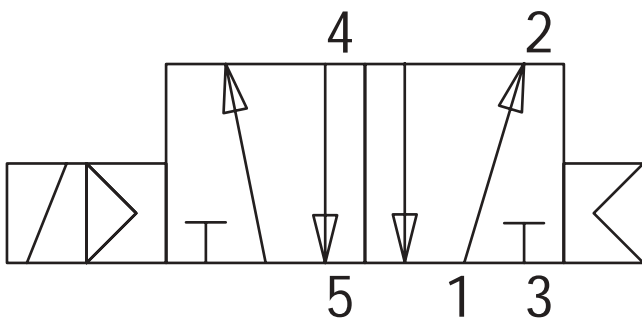
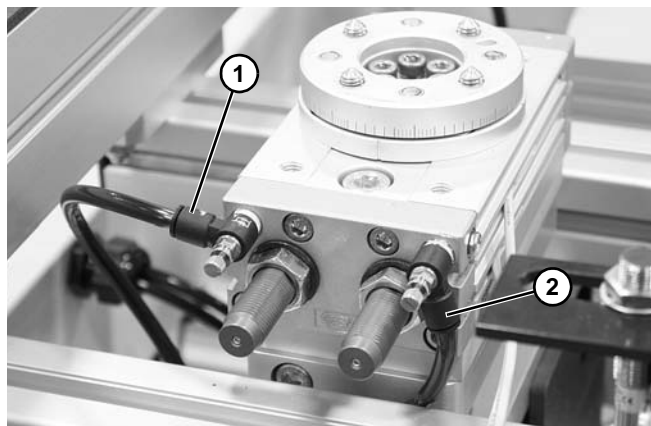

Figure 64
Figure 67
Dorner recommends using a 5 port, 2 way solenoid valve (Figure 64) to operate the Rotating Actuator.
1. Connect Port 4 (**Figure 64**) of the 5 port, 2 way solenoid to the left port (**Figure 67, item 1**) of the rotator. Dorner fittings accept 1/4" outside diameter tubing standard.
2. Connect Port 2 (**Figure 64**) of the 5 port, 2 way solenoid to the right port (**Figure 67, item 2**) of the rotator. Dorner fittings accept 1/4" outside diameter tubing standard.